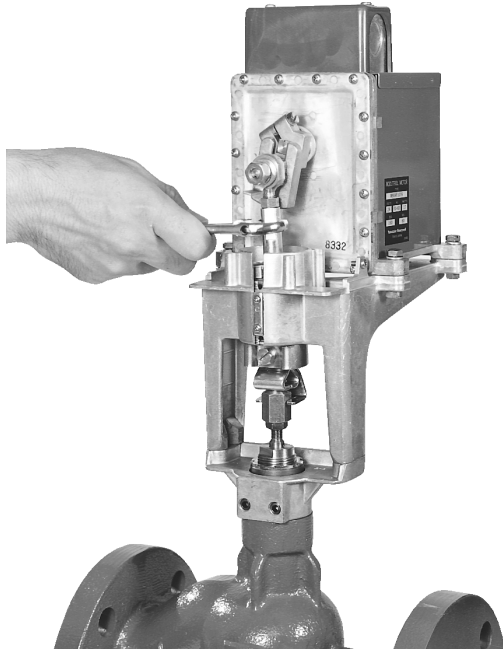
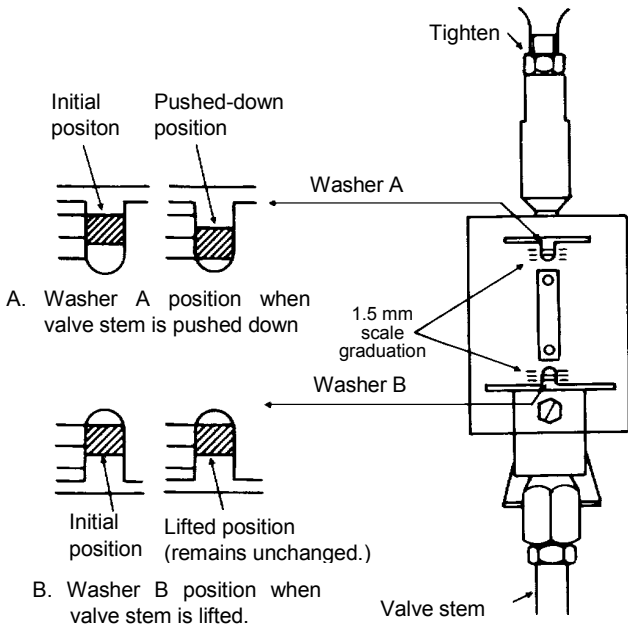

Figure 7. Strain relief adjustment
Figure 8. Strain relief adjustment for two-way valve
8) To adjust strain relief, turn the adjustment shaft using a wrench as shown in Fig. 7, so that the positions of the washers shift a half or one graduation. (See Figs. 8 and 9.) Be sure to adjust the shaft. Excessive washer movement may cause damages to the strain relief mechanism and other components.